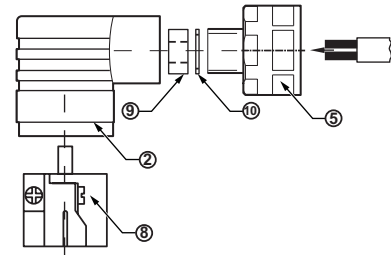

Figure 8.
- Insert the supply cable through the screwed conduit adapter ⑤, the pressure ring ⑩, and the rubber insert ⑨ into the cable socket ②. See Figure 8.